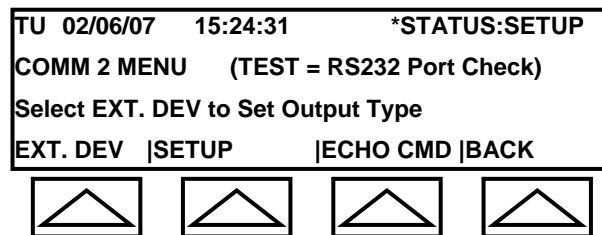

Fig. 4-14e: COM2
The screen will appear as in Figure 4-14e.
- ◆ BACK – Returns to Figure 4-14e.
All incoming characters following the Control-A (start of command character) will be shown on the 3rd line of the display. Thirteen characters from the response string will also be displayed on the right side of the display. To turn on the echo command function (see Figure 4-14e), select (toggle) the arrow under ECHO CMD. The label will change to "ECHO ON". Exit setup by pressing the menu button.